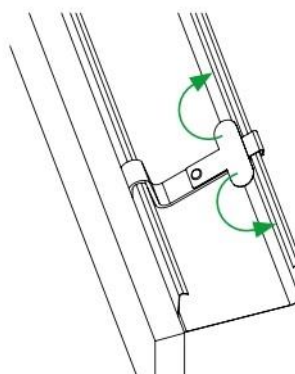

Figure 14
- Bend the side strips over the arm of the bracket (**Fig. 14**).